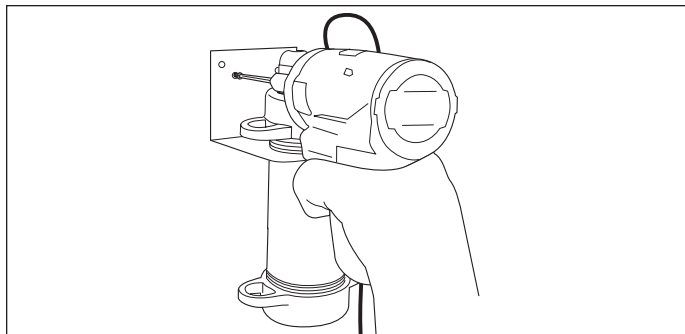

Figure 21-5
4. Mount the assembled Fuel Sensor Housing near the DoubleTrac® end fitting (Figure 21-5).